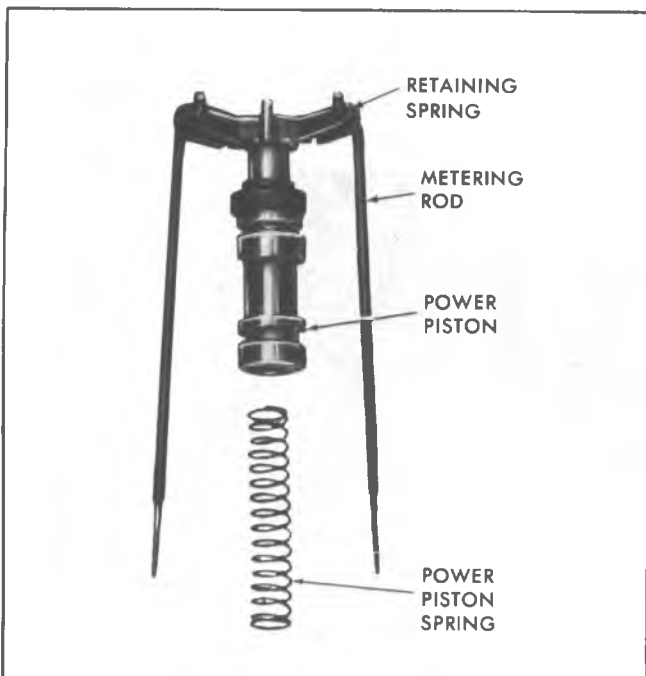

Fig. 10MQ—Power Piston and Metering Rods
5. Remove metering rods from power piston by disconnecting tension spring from top of each rod, then rotate rod to remove from hanger (Fig. 10MQ).